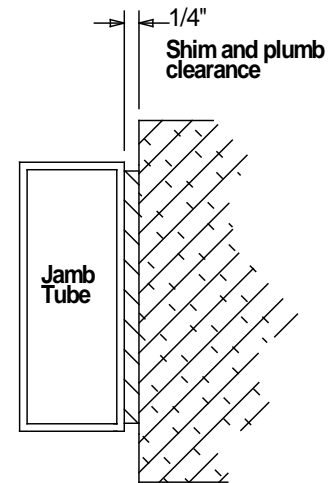

Figure 4
6. Plumb one jamb tube in both planes. If required, shim the back of the jamb. (See Figure 4)